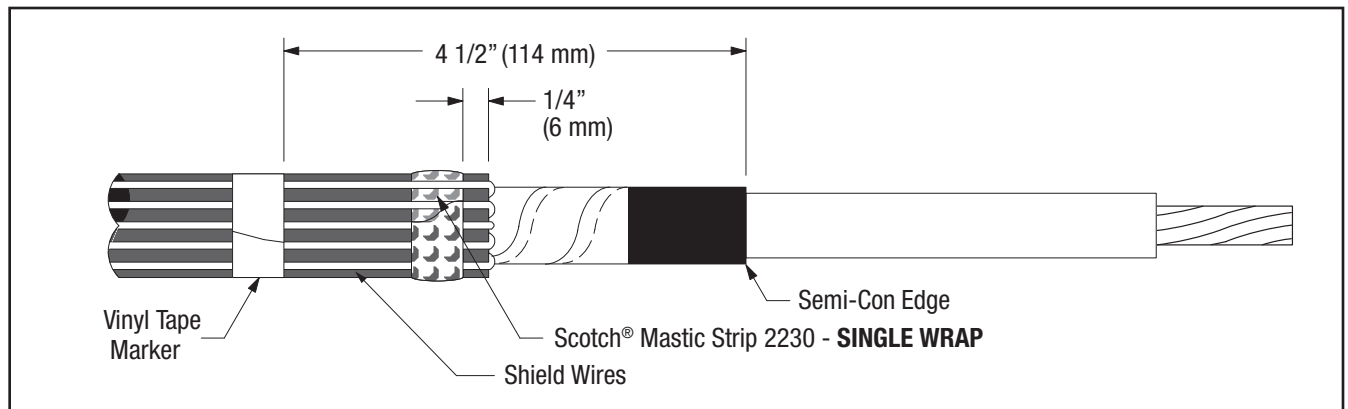

Figure 3
- 3.1 Select a Scotch® Mastic Strip 2230 from kit and remove white release liners. Using light tension, apply a **SINGLE WRAP** of Mastic around the cable jacket 1/4" (6 mm) from cut edge (Figure 3). Cut off excess.
- 3.2 Bend shield wires back over applied sealing mastic and secure to cable jacket 4 1/2" (114 mm) from cable semi-con edge using vinyl tape (see Note and Figure 3).